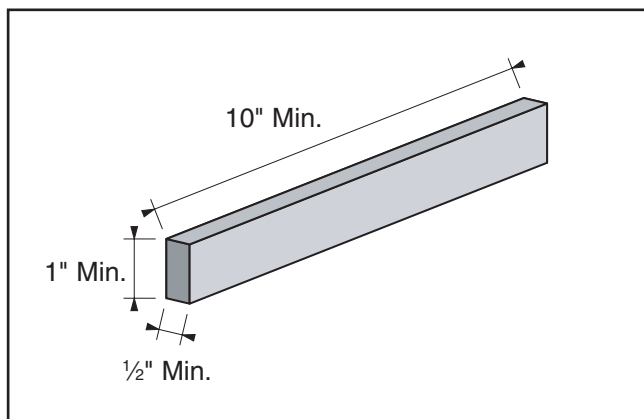

Figure 20. Minimum dimensions for edge jointing.
- **Make sure your workpiece exceeds the minimum dimension requirements (Figures 20 & 21) before edge jointing or surface planing, or it may break or kick back during the operation!**